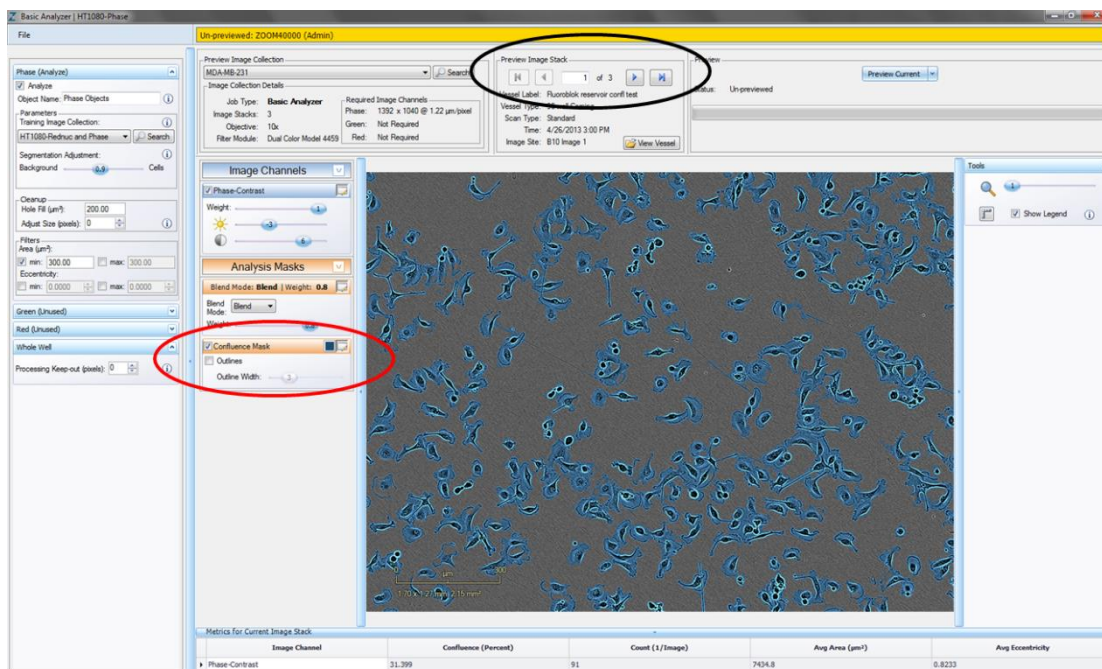

Figure 17. Processing Definition Preview
7. When the Preview Status is complete, select the “Confluence Mask” (red circle) and evaluate your phase segmentation by previewing the current image or all images within your image collection, if preview all was selected (black circle Figure 17).